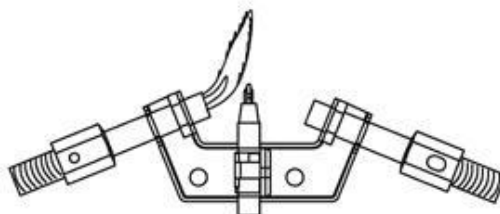

Figure 16 -Incorrect Pilot Flame Pattern
- Figure 16 shows an incorrect pilot flame pattern. The incorrect pilot flame is not touching the thermocouple. This will cause the thermocouple to cool. When the thermocouple cools, the heater will shut down.
- If the pilot flame is incorrect, as shown in Figure 16, Turn heater off (see To Turn off Gas to Appliance, page 18) See troubleshooting, page 21-23.